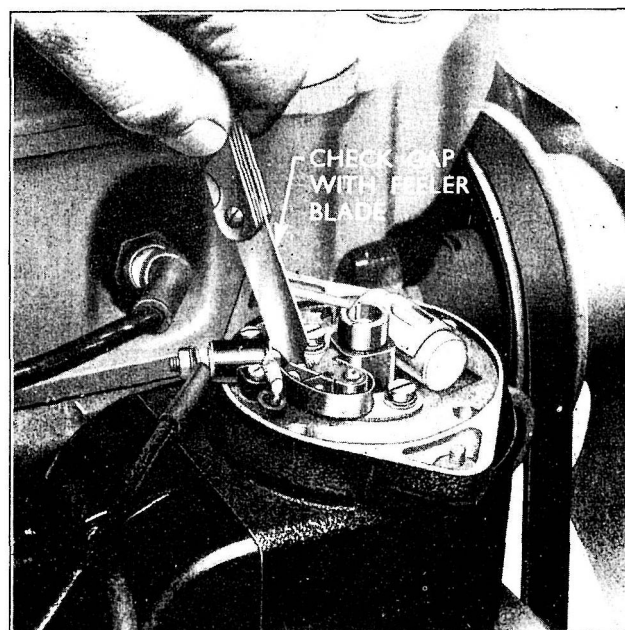

Fig. 267
- Slacken the locking screws securing the adjustable contact to the base and adjust the points gap to 0.010 in. to 0.012 in. (See Fig. 267.)